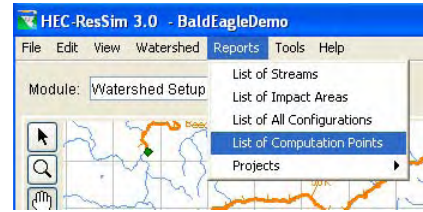

Figure 2.23 Selecting a Report
1. You must have a report selected (opened). For example, from the **Reports** menu in the **Watershed Setup** module, select **List of Computation Points** (Figure 2.23).